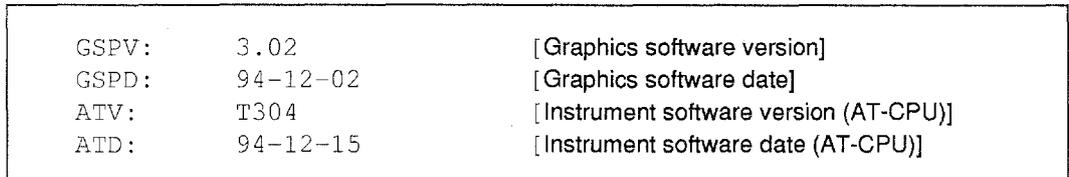
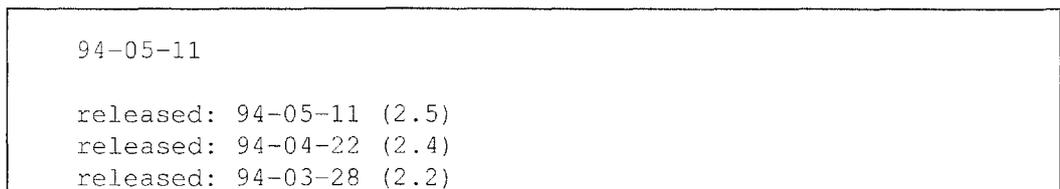

Fig. 3-3 Display of C:\123Time (example)
Fig. 3-4 Display of B:\123Time (example)
Some hardware errors may make it impossible to display the software and hardware status of the instrument using the menu, e.g. when the instrument software crashes directly after starting (2101 Debug Output appears in the display). In such cases, the software status can be determined by displaying the files B:\123Time and C:\123Time. C:\123Time contains the information for the instrument software status (AT-CPU and BSK-3 graphics software). B:\123Time contains the information regarding the "layout" of the correction data tables contained on the COMPENSATION DATA DISK and which are copied in the SRAM of the memory board (17). When the DOS prompt is displayed on the screen, the file contents can be displayed by selecting the drive (B:\ or C:\) and then entering <Type 123Time> (using an external keyboard). This will only work if the AT-CPU is working correctly and drives B:\ and C:\ (board (17), Memory) can be accessed properly. Example displays of these files are shown in figure 3-3 and figure 3-4.